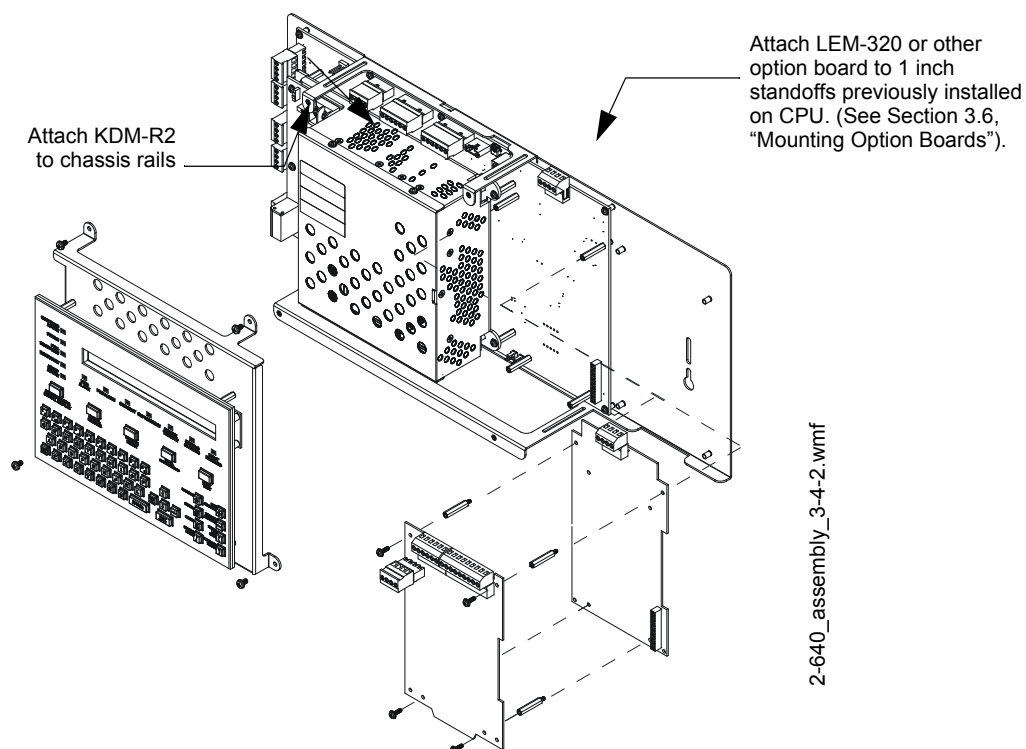
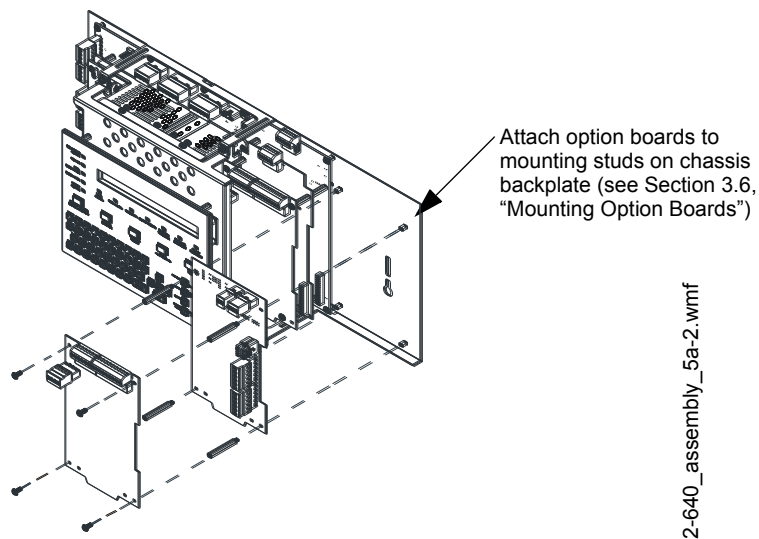

Figure 3.8 Attaching Option Boards Behind KDM-R2
Figure 3.9 Attaching Option Boards to the Right of the CPU
- Align the keypad with the mounting holes as shown in Figure 3.8 and screw it down.
Mount option boards in slots 3 and 4 of the NFS2-640/E chassis. (See Figure 3.2, Figure 3.8, and Figure 3.9.) For standoff lengths, see Table 3.2.